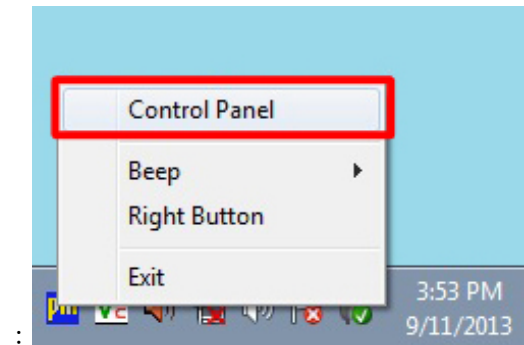

Figure 3-30: Select Control Panel
Step 2: Click **Control Panel** from the menu (**Figure 3-30**).